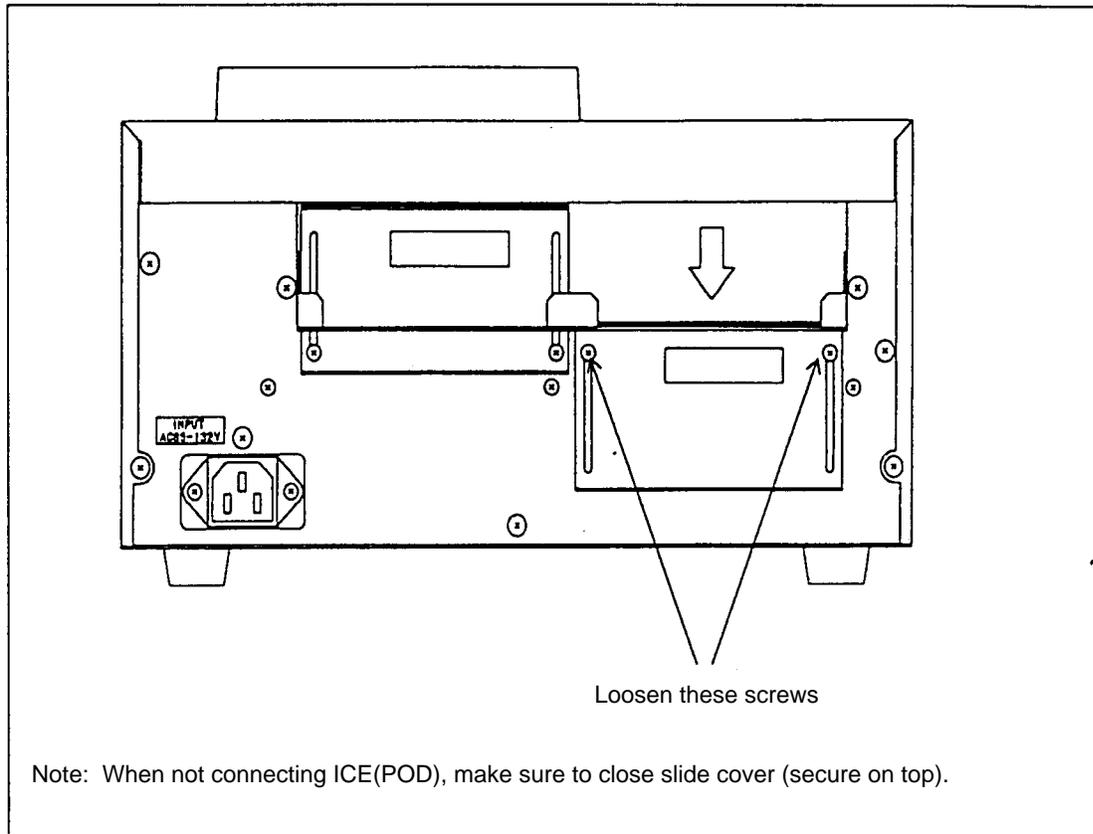

Figure 2.3 ICE/EVA board/SH-2 board plug port cover
- (3) Loosen the two screws on the ICE/EVA board/SH-2 board plug port cover and slide downward. See Figure 2.3 on the next page.